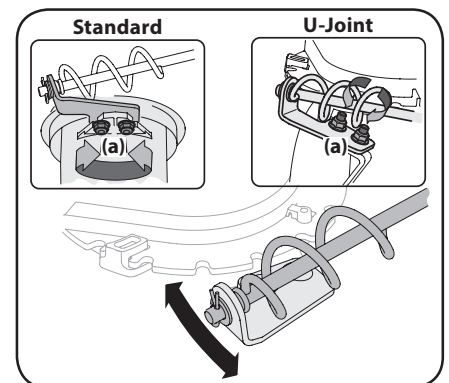

Figure 4-11
1. Loosen two nuts (a) which secure chute bracket and reposition it slightly. See Figure 4-11.